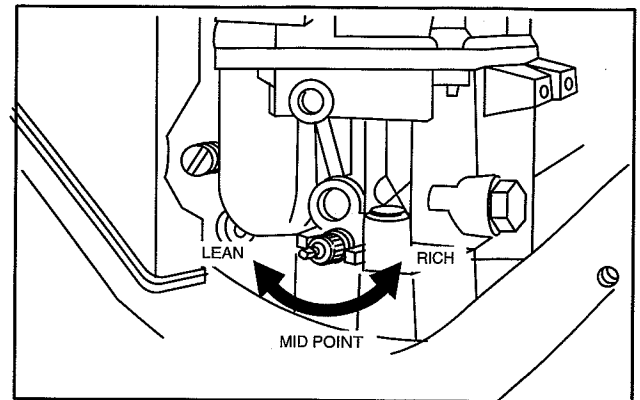

Fig. 138 – Adjust Idle Mixture
6. Turn valve to mid point between rich and lean, Fig. 138.